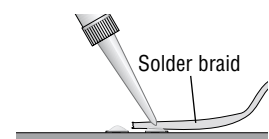

Figure 1.2.
- 4 Use solder braid and a soldering iron to remove the solder from the two pads (Figure 1.2).